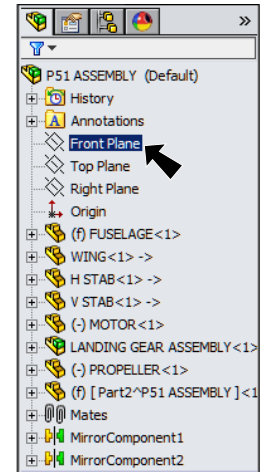

Fig. 1
Step 3. Click **Front Plane**  in the Feature Manager, **Fig. 1**.